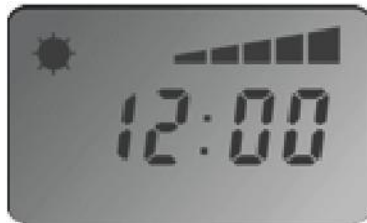

Figure 1-6
- 1.1 1) Press "⏻" to start machine, press "☀️" to enter heating mode. Then "☀️" and "▬▬▬▬▬" will be displayed. "▬▬▬▬▬" default is range 5, as shown in Figure 1-6. Press "+" or "-" to regulate the range. Press "+" or "-" to increase or decrease for 1 range. Range 1 is the lowest.